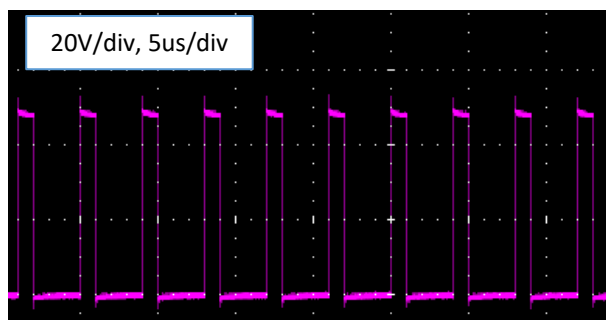
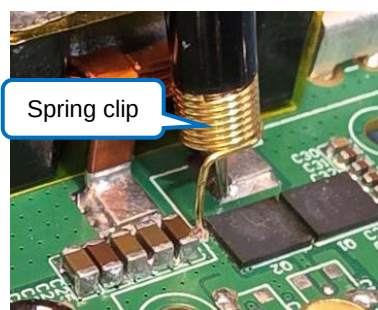
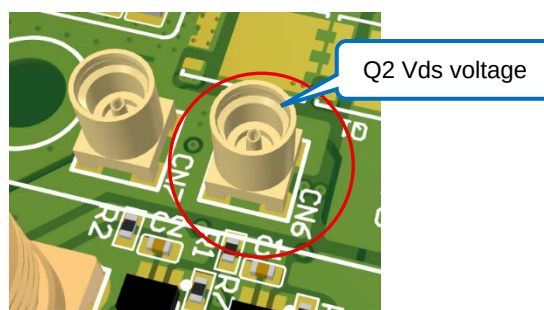

Figure 19. Vds Voltage Waveform
Figure 20. Passive Probe-Vds
Figure 21. MMCX Jack-Vds
- Ensuring the initial main power supply voltage is 0V, turn on the power and slowly increase the voltage to DC48V. The Vds voltage waveform of the low-side GaN FET Q2 is shown in the Figure 19. The same methods can be used to measure the Vds voltage at Q2 as shown in Figure 20 and Figure 21 (the jack at CN6 is not provided).